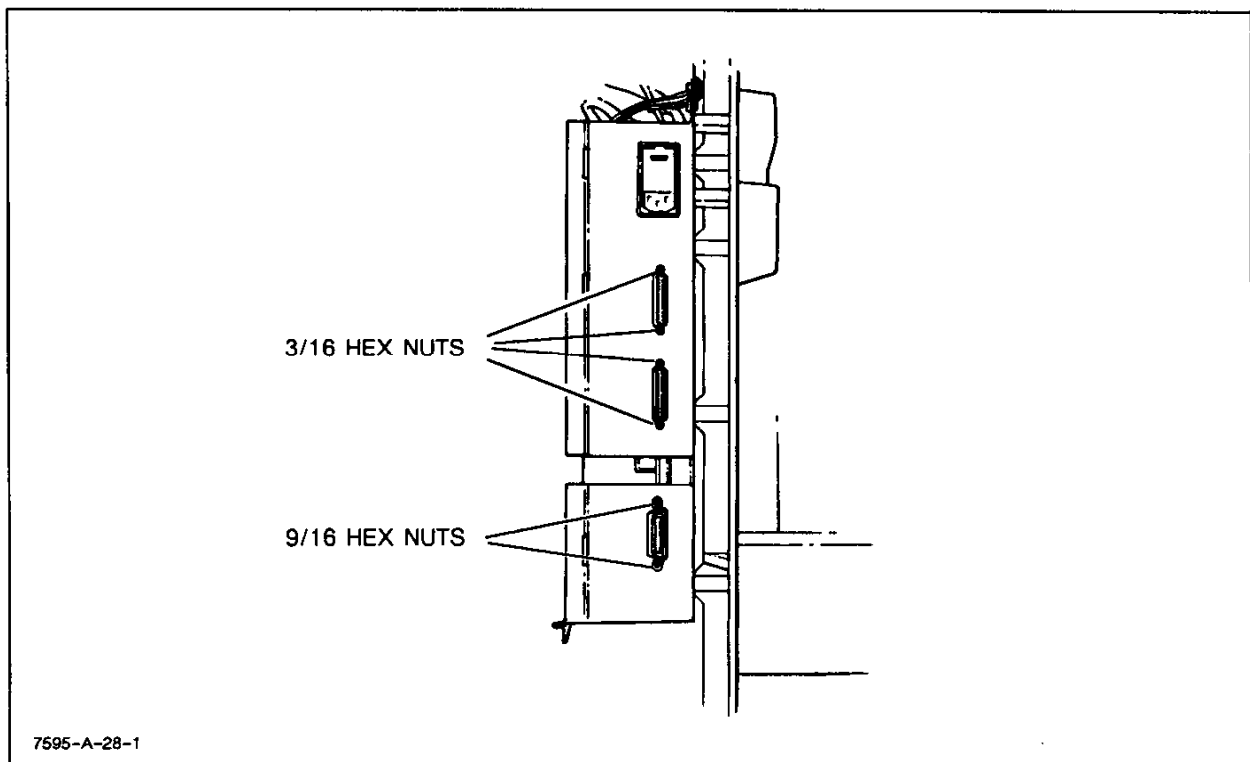

Figure 6-15. I/O Connectors
- d. Remove the hex nuts (3/16 in. and 9/32 in.) that mount the I/O to the back panel. See Figure 6-15.